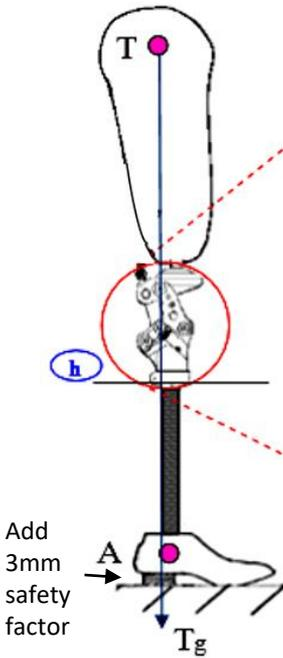
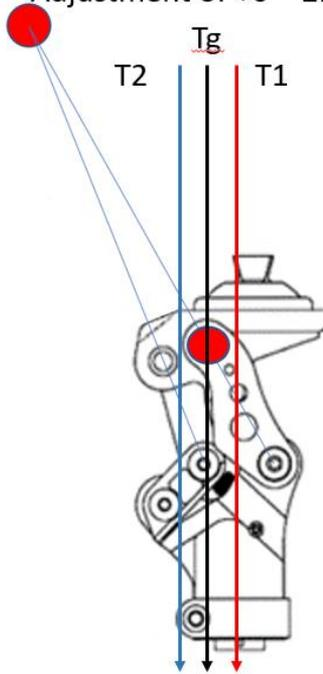

Fig. 2
Fig. 3
Note: 4-bar knees inherently are very stable due to the geometry built into each design. This is commonly referred to as the Instant Knee Center (IKC). The IKC point when doing bench alignment, will fall behind the traditional TKA line that we will reference. (Fig. 2,3) Tg line in Fig. 3 is ideal placement, but in certain instances, it may be necessary to accommodate placement anteriorly (into the T1 zone up to 2mm), or posteriorly (into the T2 zone up to 2mm). The Tg line is referencing a moving weight bearing line, so it could be in T1, neutral, or in T2 zones.
a) With prosthesis assembled, taking into account hip flexion contractures, abduction, Line Of Progression, and toe out (Fig.2), the TKA plumb line should pass through the knee center (at the proximal/anterior pivot – red dot pivot Fig.3) and in front of the K point (IKC). Take into account shoe heel height, and add 3mm safety factor.
d) The weight line for Sagittal or A/P plane should have the plumb line passing through T (Tg) line. Ideally, Tg line should pass through the knee center (red colored pivot) and be perpendicular to the ground. (Fig. 3)
e) **When to use ZONE 1 option** - For the higher weight spectrum patients, Tg line should pass slightly into the "Zone I" area (up to 2mm), which is indicated as up to "T1" (Fig. 3) so that it will reduce stance flexion moment forces of the 5th bar. It is recommended to have controlled stance flexion action of the 5th bar, and not to lock it out or have excessively long duration of it. Excessive stance flexion moment and/or duration can be adjusted through tightening the "Flexion Control Adjusting Screw" in, and/or adjusting alignment (of socket and/or foot) into the T1 zone (up to 2mm). The goal is to have smooth transition from stance flexion to neutral mid-stance motion, and not excessive stance flexion duration.
f) **When to use ZONE 2 option** - For the lighter weight spectrum patients, such as women and children, Tg line should pass slightly into the "Zone II" area (up to 2mm), which is indicated as up to "T2" (Fig.3) so that it will increase stance flexion moment forces of the 5th bar linkage. It is recommended to have controlled stance flexion action of the 5th bar, and not excessively short duration, or abrupt motion of it. Excessive short stance flexion moment and/or duration can be adjusted through loosening the "Flexion Control Adjusting Screw" out, and/or adjusting alignment (of socket and/or foot) into the T2 zone (up to 2mm). The goal is to have smooth transition from stance flexion to neutral mid-stance motion, and not abrupt motion or excessively short stance flexion duration.
It is highly recommended that Tg line should ONLY pass through the "Red Dot". (Fig. 3)